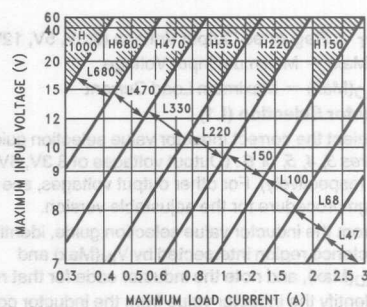

FIGURE 4. LM2576(HV)-5.0
A. Use the selection guide shown in *Figure 4*.